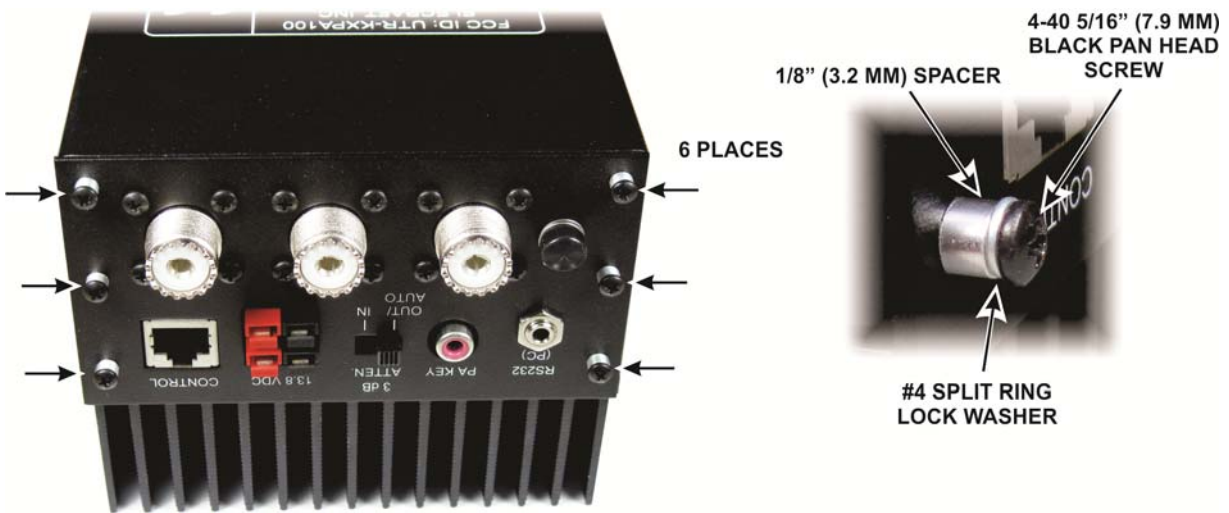

Figure 20. Mounting the Rear Panel.
Secure the rear panel with six screws split ring lock washers and spacers as shown in Figure 20.
- Page 19, Figure 20:** Replace the figure with the following: